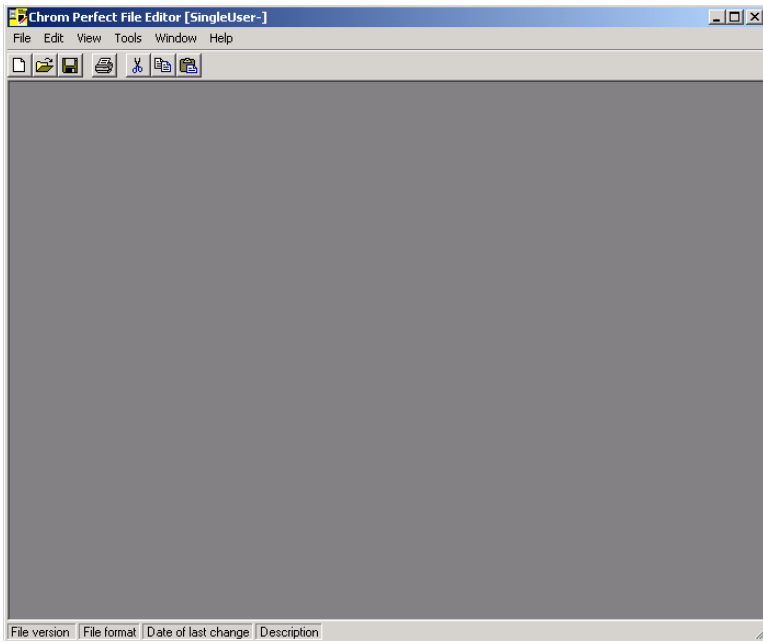

Figure A-24: File Editor
- Go back to the main menu of the Chrom Perfect, click **File Editor** button. The Chrom Perfect File Editor window will be open (Figure A-24).